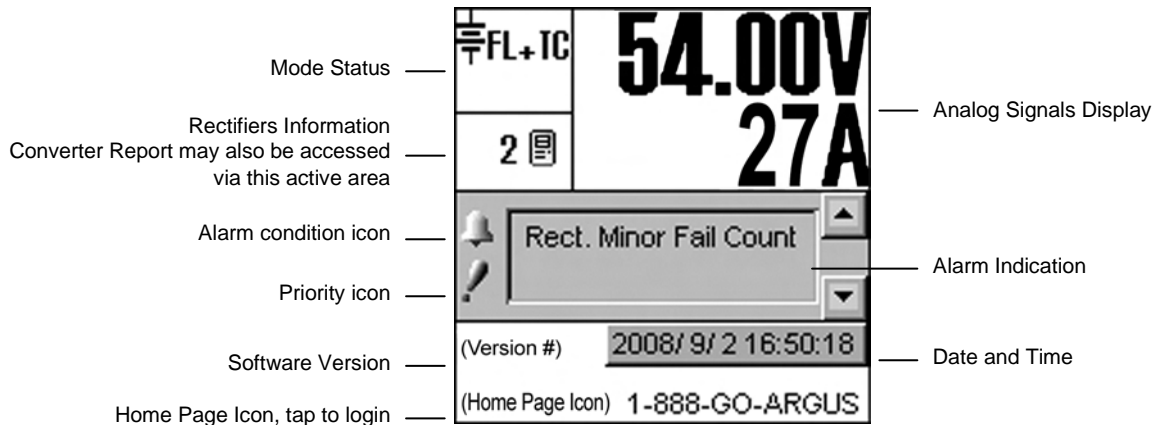
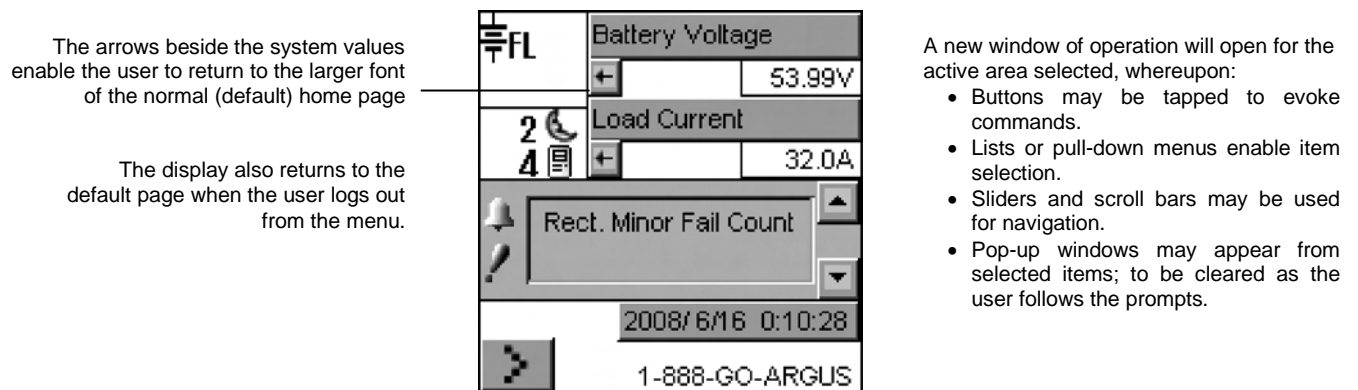

Figure 2—Sample of CXC default operating screen
Figure 3—Sample of CXC home page with user-activated Analog Signals Display
When the CXC is powered-up or reset, it will first perform a 15-second self-test before displaying the Cordex logo and various identification messages. The three front-panel LED's will illuminate temporarily, but will extinguish after the system has finished its self-test. Next, the GUI will display the power system's parameters during Normal operating mode, see Figure 2.
The Analog Signals Display on the home page will show two lines of text for system voltage and current by default (Figure 2). Tap this active area to decrease the font size for four lines of text showing the system values and the corresponding labels (Figure 3). The large font reappears after 20 minutes of inactivity (no user input); otherwise tap again to enter a new window of operation (Figure 10) or select a different active area as required. Refer also to 5.1.3.
The CXC has four modes of operation: float (FL), equalize (EQ), boost (BST) and battery test (BT). The mode, along with temperature compensation (TC or Temp Comp) activation, is indicated in the top left “active area” of the GUI, see Figure 2. The time duration, until the mode changes, will also be shown in that active area.
This is the CXC’s default mode at start up and during normal system operation. When in this mode, the rectifier’s charge (or output) voltage is driven by the float voltage setting found in the CXC’s Rectifiers menu, see 6.3.2. The icon (message) FL will display on the GUI’s upper left corner (Figure 2) when the CXC is operating in float mode. **Do not adjust the float voltage of the rectifiers when they are in Current Limit.**